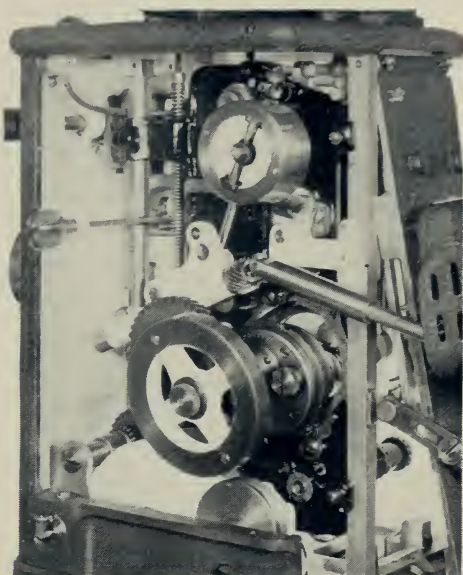

Fig. 19. Gear side of the Model "K" showing intermittent movement in process of removal
7. Remove the two screws in the shutter drive casting, and cock up the drive shaft bracket (see Fig. 19).